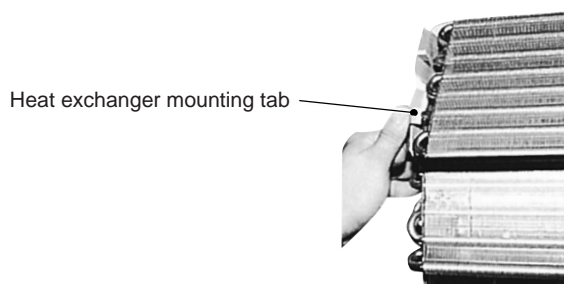

Fig. 12
4. Take off the mounting tab on the left side of the Heat Exchanger, pull the Heat Exchanger forward (left side) and remove the Cross Flow Fan. (Fig. 12)